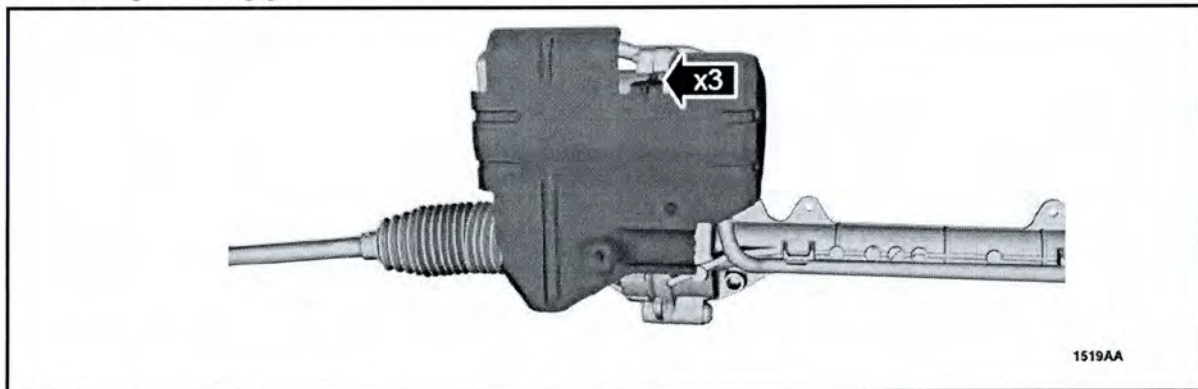

FIGURE 7
3. With the help of an assistant using a pry bar between the subframe and roll restrictor bracket, position the engine forward to provide clearance. Remove the steering gear motor heat shield. See Figure 7.
1. *With the help of an assistant using a pry bar between the subframe and roll restrictor bracket, position the engine forward to provide clearance. Install the steering gear motor heat shield. See Figure 7.*